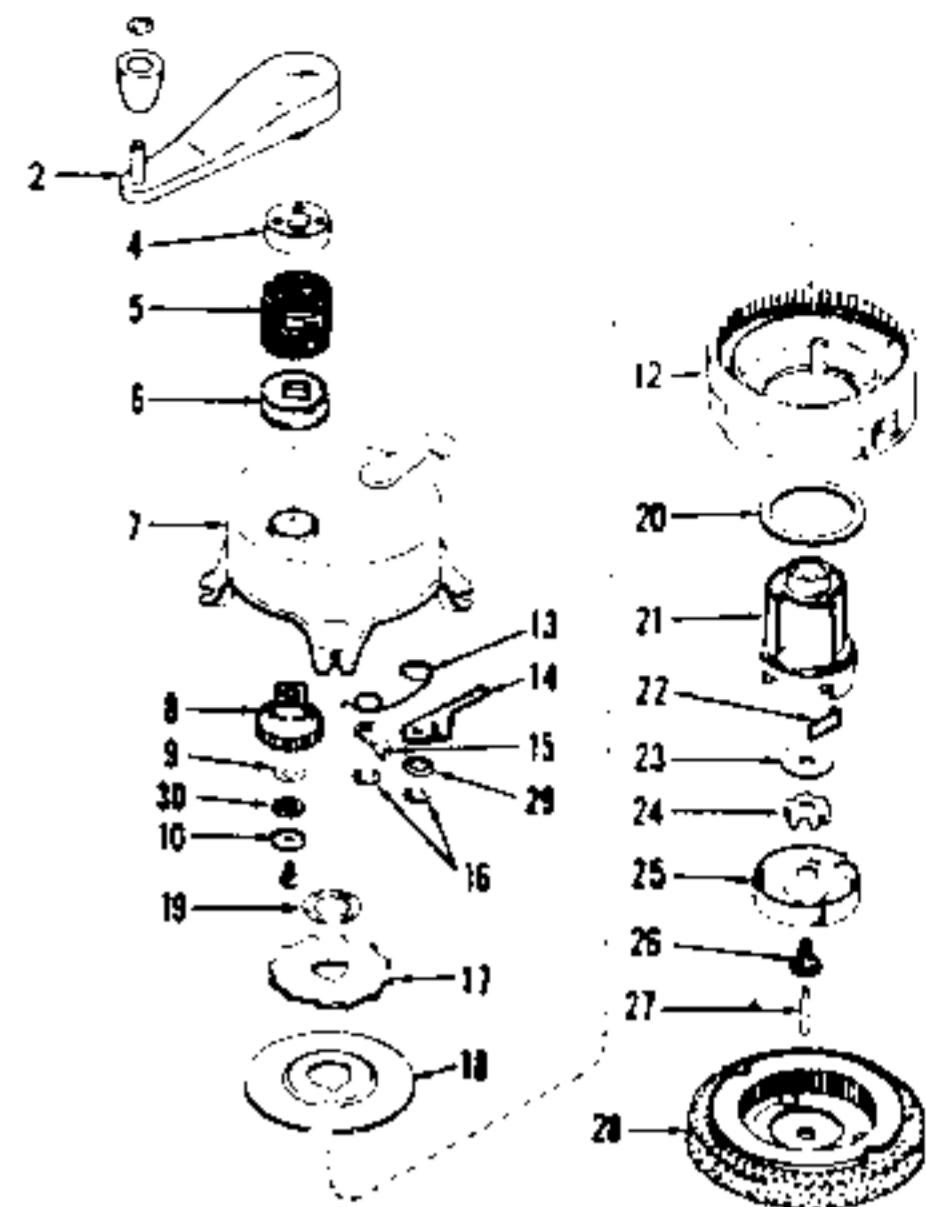

Fig. T93 - Exploded view of ratchet starter used on some engines.
RATCHET STARTER. On models equipped with ratchet starter, refer to Fig. T93 and proceed as follows: Move release lever to "RELEASE" position to remove tension from main spring. Remove starter assembly from engine. Remove left hand thread screw (26), retainer hub (25), brake (24), washer (23) and six starter dogs (22). Note position of starter dogs in hub (21). Remove hub (21), washer (20), spring and housing (12), spring cover (18), release gear (17) and retaining ring (19) as an assembly. Remove retaining ring, then carefully separate these parts.